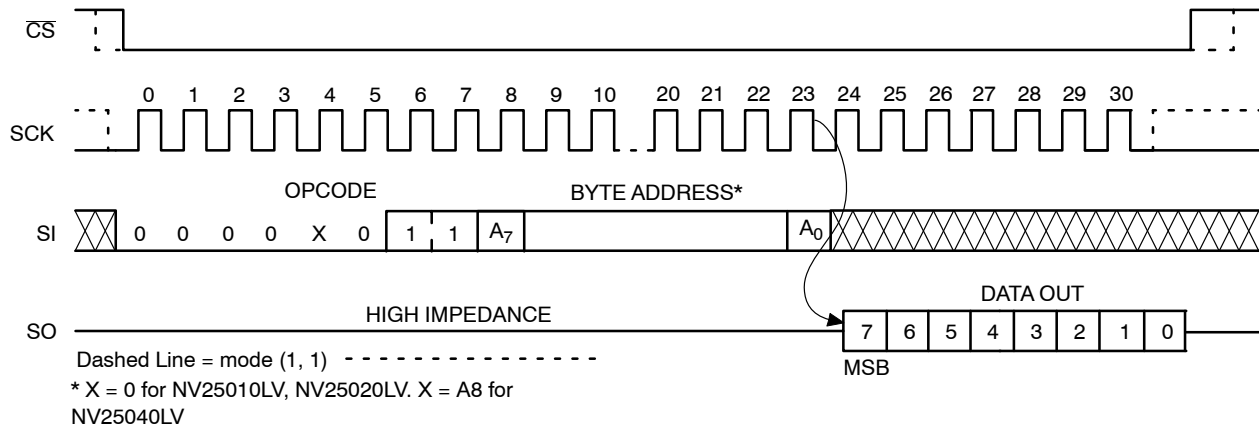

Figure 8. READ Timing
After receiving the last address bit, the NV250x0 will respond by shifting out data on the SO pin (as shown in Figure 8). Sequentially stored data can be read out by simply continuing to run the clock. The internal address pointer is automatically incremented to the next higher address as data is shifted out. After reaching the highest memory address, the address counter “rolls over” to the lowest memory address, and the read cycle can be continued indefinitely. The read operation is terminated by taking CS high.
Reading the additional 16-byte Identification Page (IP) is achieved using the same Read command sequence as used for Read from main memory array (Figure 8). **The IPL bit from the Status Register must be set to 0 before attempting to read from the IP.** The [A3:A0] are the address significant bits that point to the data byte shifted out on the SO pin. If the CS continues to be held low, the internal address register defined by [A3:A0] bits is automatically incremented and the next data byte from the IP is shifted out. The byte address must not exceed the 16-byte page boundary.